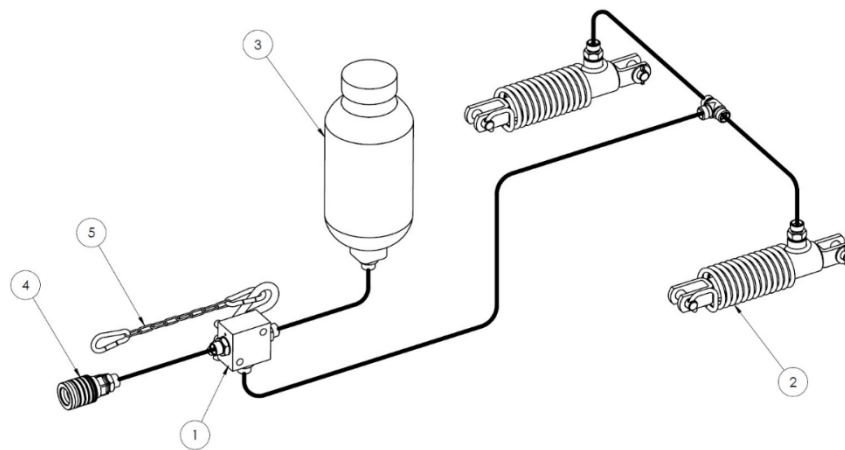

Figure 9 The 1-line hydraulic braking system
- single-line hydraulic braking system (Figure 9)
Optionally, the spreader can be equipped with a hydraulic single-line braking system - Figure 9. The brake is activated from the driver's seat by pressing the tractor's brake pedal. The spreader brake is supplied and activated directly from the tractor's hydraulic braking system. In the event of an unforeseen disconnection of the spreader from the tractor coupling, the emergency valve (1) uses the chain (5) to apply the brakes of the machine.